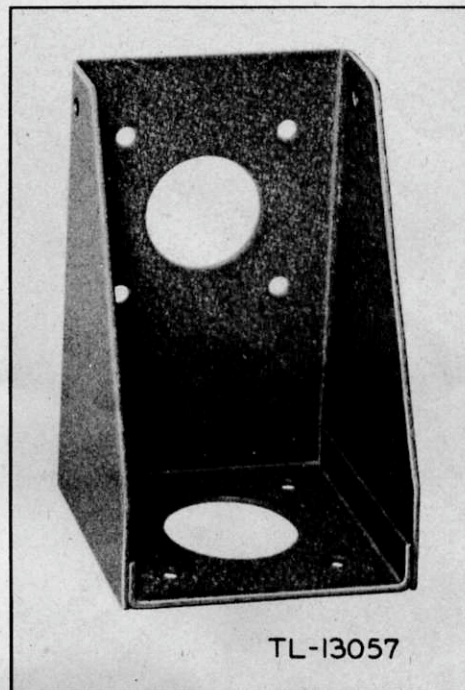

Figure 6. Mast Bracket MP-50.
**12. MAST BRACKET MP-50.** Mast Bracket MP-50 (fig. 6) is a heavy steel bracket for mounting Mast Base MP-65 to the vehicle. It offers a choice of two positions for the mast base.